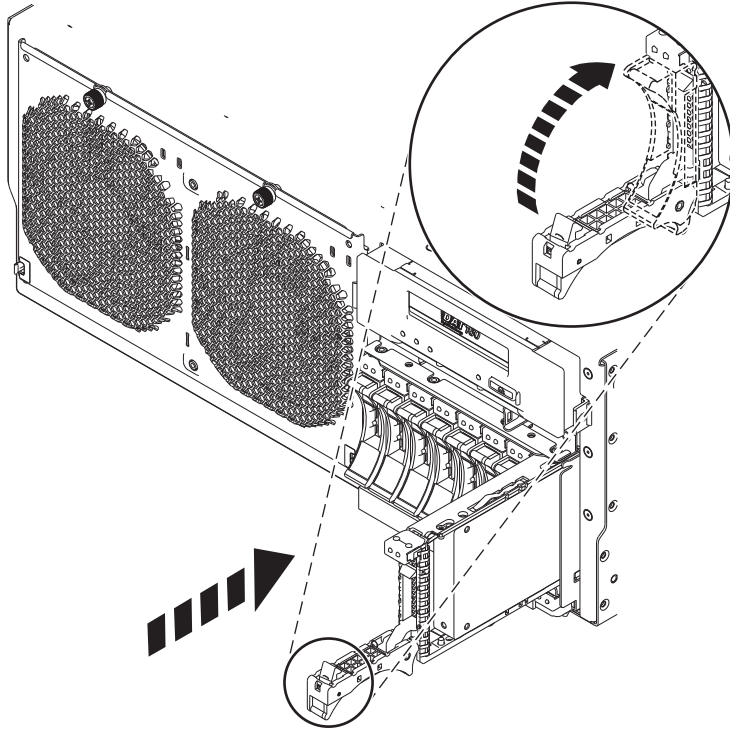

Figure 5. Installing the disk drive into the 8202-E4B, 8202-E4C, 8205-E6B, or 8205-E6C
7. Unlock the disk drive handle (A) by squeezing it and pulling it out toward you. If the handle is not all the way out, the disk drive does not slide into the system or expansion unit.
9. Slide the disk drive all the way into the system or expansion unit, and push the disk drive handle (A) in until it locks, as shown in Figure 5 on page 17. The service indicator on the disk drive turns on.